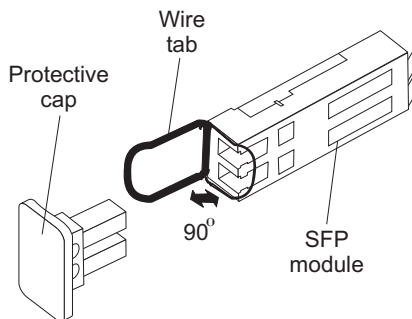

Figure 15. Unlocking the SFP module latch - wire variety
- For SFP modules that contain wire tabs, unlock the SFP module latch by pulling the wire latch outward 90°, as shown in Figure 15.